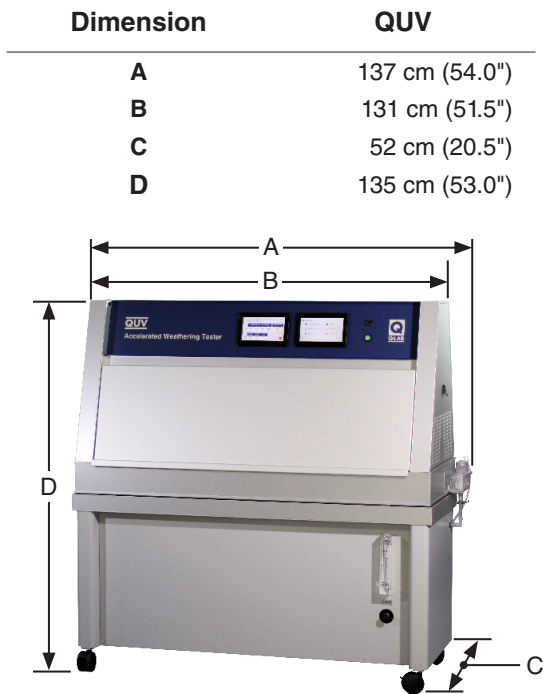

Figure 5.2a: External dimensions.
- The external dimensions for QUV testers are listed in Figure 5.2a.